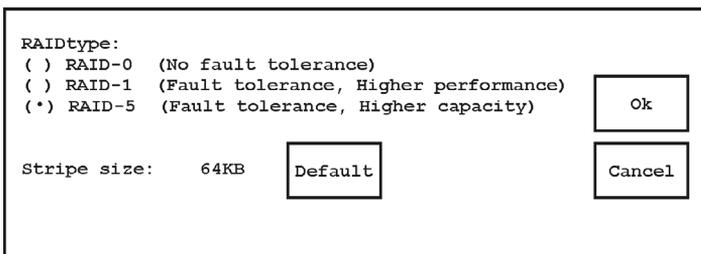

Figure 2-9 RAID Type Window
- 1 Select **RAID > Create**. The RAID Type window appears as shown in Figure 2-9.